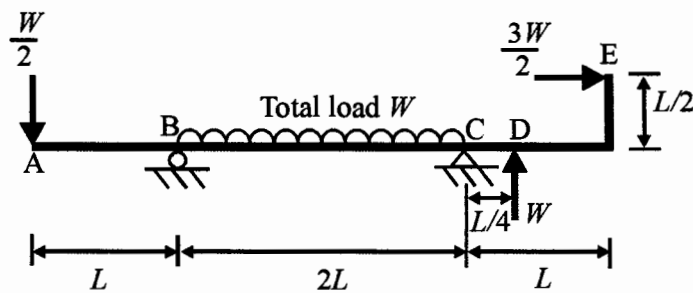

Fig. 5
**5 (long)** The linear elastic structure shown in Fig. 5 has a total load  $W$  distributed between B and C. There are point loads of  $W/2$  at A,  $W$  at D and  $3W/2$  at E. The members have stiffness  $EI$  and negligible self-weight.